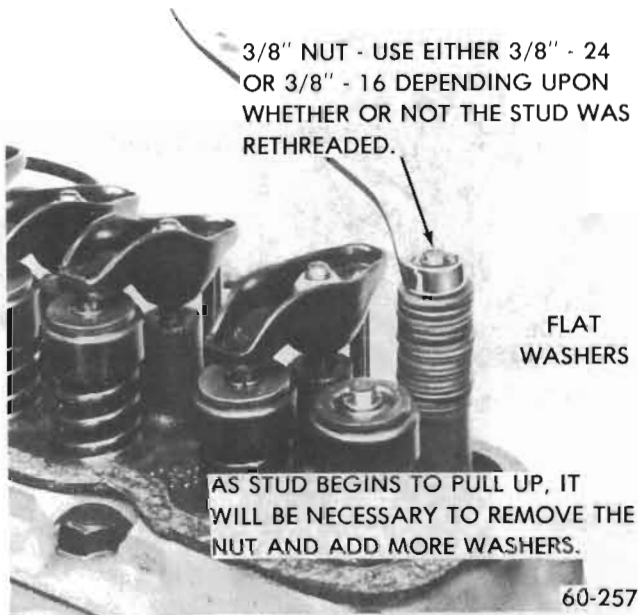

Figure 60-20 - Removing Rocker Arm Stud
3. If rocker arm stud is stripped refer to Figure 60-19 for rethreading and Figure 60-20 for pulling the stud.